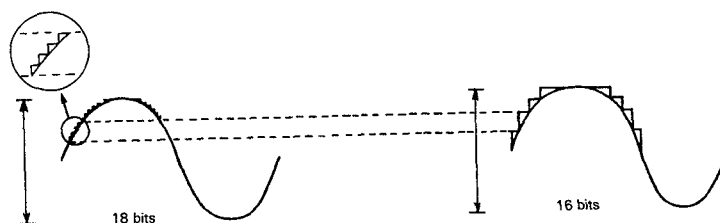

Figure 7
- (2) **18-bit digital filter effect:** The waveform is shown in Figure 7. The 18-bit digital filter effect is shown in the resolution after combining with the 18-bit D/A converter. The resolution of voltage alteration is improved four times, increasing the amount of information to alter the voltage smoothly.